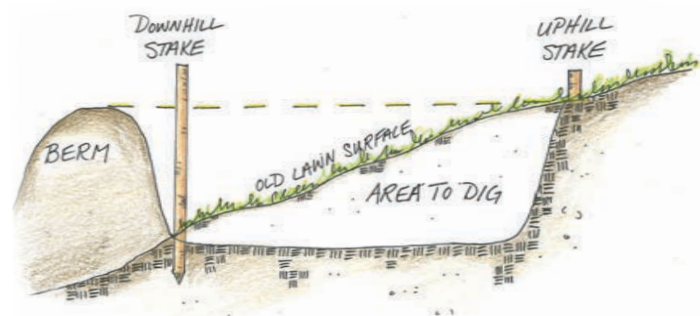

Figure 2. Where to dig and how to create the berm on a sloped site.
- a. **On a Slope:** If the rain garden is on a slope, a berm will be needed. The sod and soil material excavated from digging the garden should be reserved to build the berm (Figure 2).
STEP 4 – Set the berm height. Once you are close to having the entire garden area dug down to the “total depth to dig,” hammer stakes along the perimeter of the rain garden about three to four feet apart, starting with the highest edge and working around the garden. Attach a string to the base of the highest stake. Use a string level to mark that height on each stake around the perimeter of the garden. This will be your berm height. Tie a string from the stake to stake at that level to guide you while building the berm. See Figure 2.